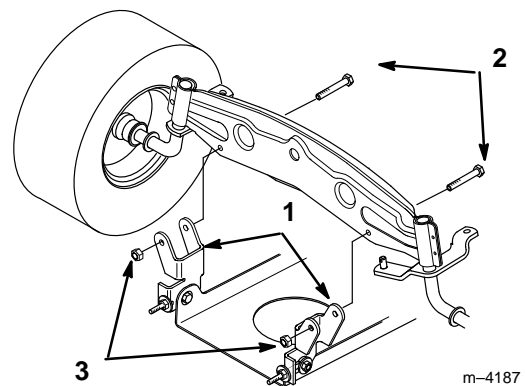

Figure 39
9. Remove the bolts and lock nuts and pull the two mower pivot mount brackets down from the front axle (Fig. 39).